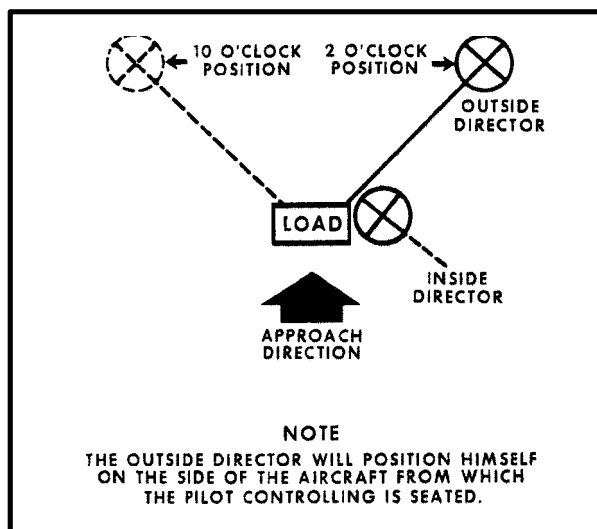

Figure 5-3. HST Initial Position
**f. Positioning Personnel (USMC).** Marine Corps HST operations require different positions for the HST personnel (Figure 5-3). As the helicopter approaches the landing site, the outside director is at a position of 2 (or 10) o'clock upwind of the load. From this position he is able to guide the helicopter over the load with the use of a hand signal. The hookup man is the